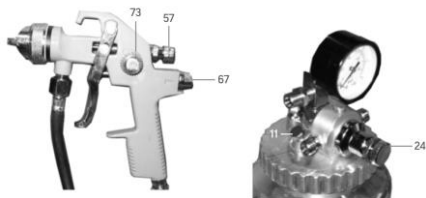

Fig. 5
5. Examine the results and make adjustments, as needed (Fig. 5):